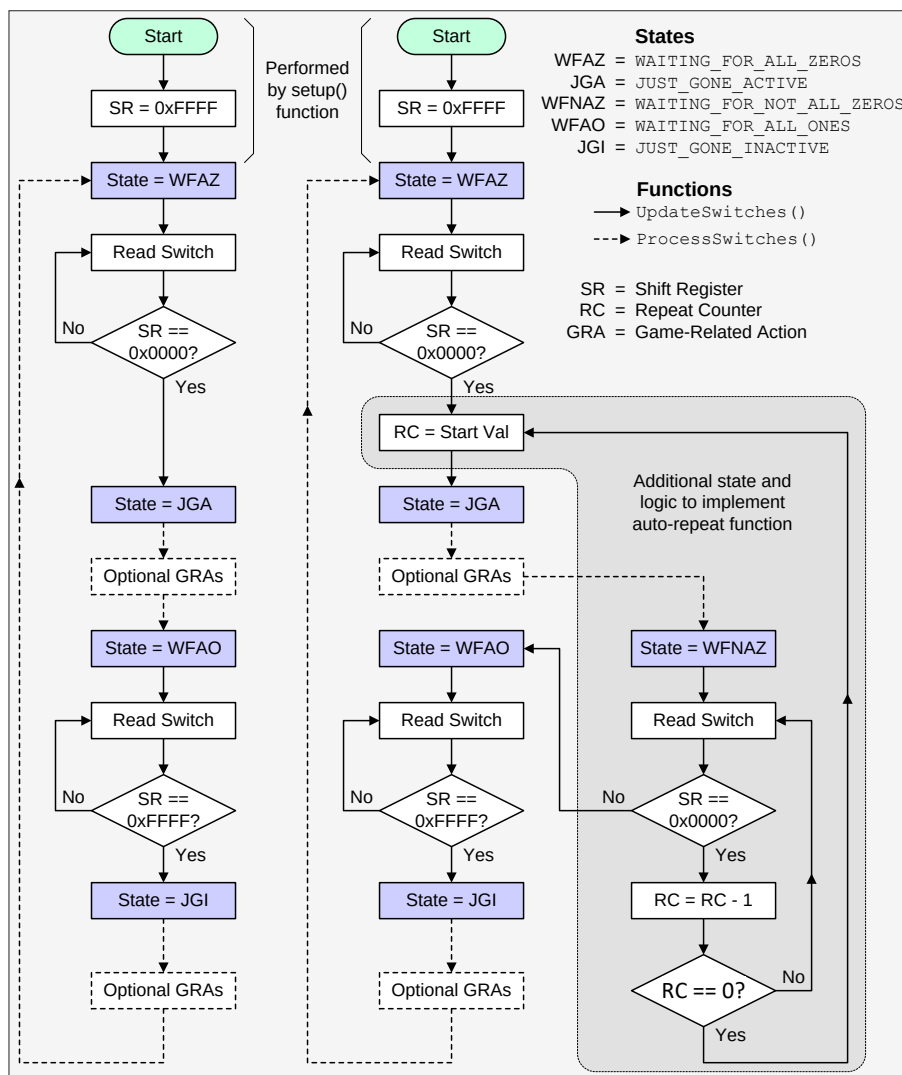

Fig.2: our switch-handling 'flowchart' (all switches are active-low).
Before we plunge headfirst into the mire, it's worth taking a few moments to remind ourselves how we are currently debouncing and processing our switches. Each switch is associated with a simple state machine, as illustrated in Fig.2(a).
Fig.2 shows state machines presented as pseudo-flowcharts rather than traditional state diagrams or program execution flowcharts (that's just the way they fell out when I was drawing them). This means we can't directly translate these diagrams into code; they're just a way of visualising what's going on.
In our current code, as shown in Fig.2(a), we decided that our state machine should have four states: **WAITING\_FOR\_ALL\_ZEROS** (ie, waiting for the switch to become fully/stably active), **JUST\_GONE\_ACTIVE**, **WAITING\_FOR\_ALL\_ONES** (waiting for the switch to become fully/stably inactive), and **JUST\_GONE\_INACTIVE**.
Remember that a copy of the state machine shown in Fig.2(a) is applied to each switch. The **setup()** function preloads the shift register (SR) associated with each switch with 0xFFFF and sets its state to **WFAZ**, reflecting the assumption that all our switches commence in their inactive states.
In our original sketch, as depicted in Fig.2(a), each switch uses a simple four-state debounce state machine that generates one action-triggering event per press. This event occurs when the input becomes stably active and the machine enters its **JUST\_GONE\_ACTIVE** state. In the case of the action buttons,
To add auto-repeat functionality to the direction buttons, we augment the per-switch state machines, as shown in Fig.2(b). First, we extended the state machine by adding a repeat counter, **rptCtr** (labelled RC in the diagram), to the **SwitchStuff** structure.
When the **ProcessSwitches()** function sees the **JUST\_GONE\_ACTIVE** state, it first performs any game-related actions (GRAs) associated with that switch. For the action switches, which don’t require auto-repeat (at least, not in this instance), the state machine continues to transition to the **WAITING\_FOR\_ALL\_ONES** state, as shown in Fig.2(a).